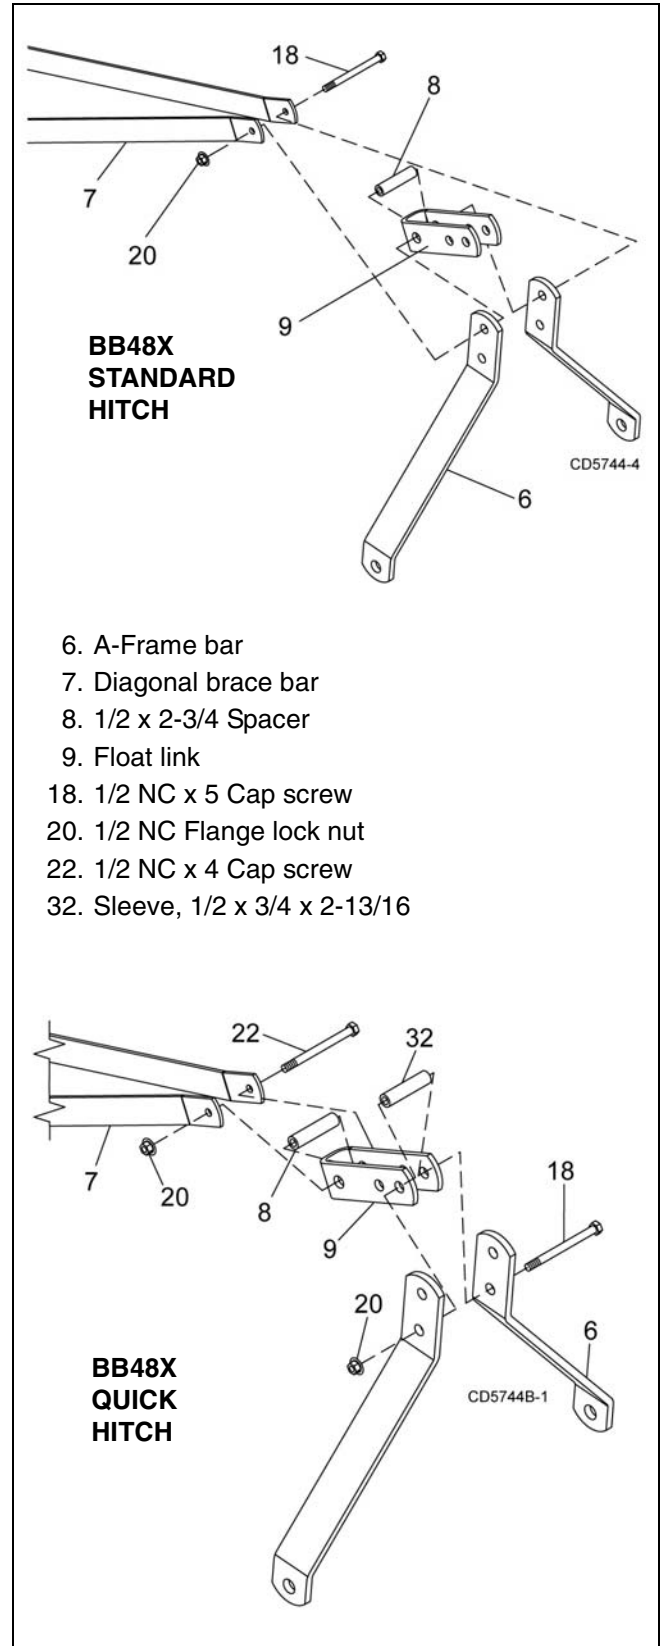

Figure 34. Diagonal Brace Bars to A-Frame Connection - BB48X Only
1. Remove cap screw (18), upper Figure 34, and flange lock nut (20) from top hole on A-frame bars. Leave spacer (8) and float link (9) together.
2. Position diagonal brace bars (7) on the outside of A-frame bars (6).
3. Align diagonal brace bars with top hole in A-frame bars, float link, and spacer. Secure with cap screw (18) and flange lock nut (20) that were previously removed.
An optional Quick Hitch attachment may be used on this cutter. Install A-frame as shown (Figure 34, bottom).